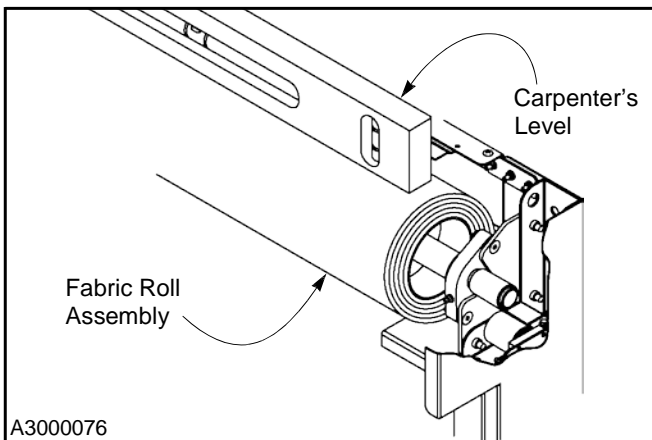

Figure 32
1. If the fabric is not tracking properly, verify that the fabric roll is level. If the fabric roll is not level, the side columns will have to be shimmed level with each other. Start by shimming the side column at the low end of the fabric panel. (See Figure 32.)